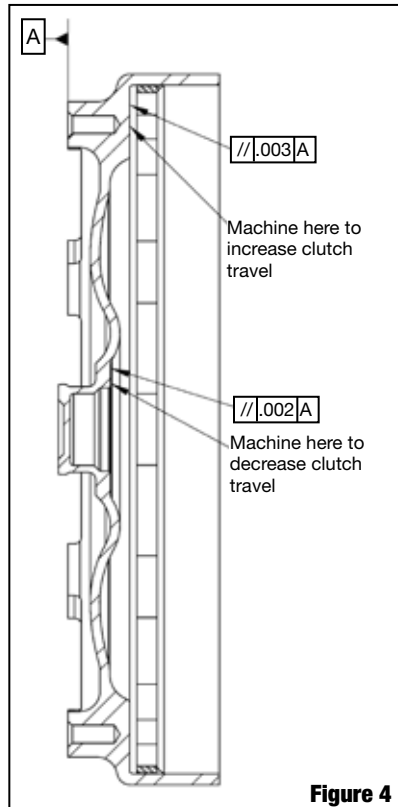

Figure 4
16. If there is too much clutch travel, machine the thrust surface of the front cover by the amount that you want to reduce the clutch travel (**Figure 4 also on page three**). Make sure to maintain a RA 16 micro-inches surface finish and keep the thrust surface parallel to the mounting pads within .002". If you want to increase the amount of clutch travel, machine the lockup surface of the front cover by the amount you
want to increase the travel (**Figure 4**). Make sure to keep the surface finish better than RA 20 micro-inches and parallel to the mounting pads within .003".